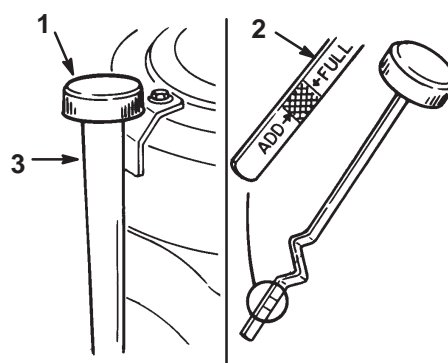

Figure 23
2. Clean around the oil dipstick (Fig. 23) so dirt cannot fall into the filler hole and damage the engine.
3. Unscrew the oil dipstick and wipe the metal end clean (Fig. 23).
4. Slide the oil dipstick fully into the filler tube, do not thread onto tube (Fig. 23). Pull the dipstick out and look at the metal end. If oil level is low, slowly pour only enough oil into the filler tube to raise the level to the "FULL" mark.
5. Slowly pour approximately 80% of the specified oil, page 24, into the filler tube (Fig. 23). Now check the oil level; refer to Checking Oil Level, page 24. Slowly add additional oil to bring to "FULL" mark on dipstick.